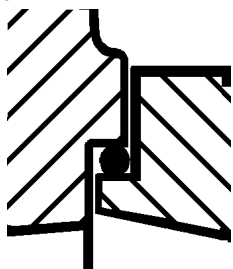
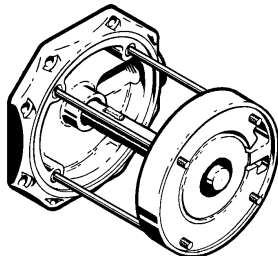
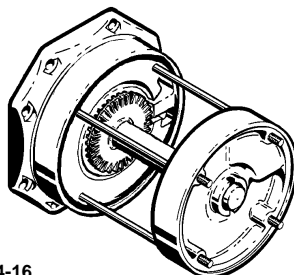

Figure 4-14
Figure 4-15
Figure 4-16
until the "O" ring fits inside the lip in the inlet cover. Refer to Figure 4-14.
- e. With the "O"ring facing the motor end, slide the channel ring (#10) onto the guide rods with the water channel facing up. The large inlet opening should be on the same side as the pump inlet. Refer to figure 4-15. Push on firmly until the "O"ring fits inside the lip in the inlet cover (or diffuser ring). Refer to Figure 4-14.
- c. With the "O"ring facing the left hand channel ring, slide the channel ring onto the guide rods. The small outlet opening should be on the same side as the pump inlet. Refer to Figure 4-16. Push on firmly until the "O" ring fits inside the lip in the left hand channel ring. Refer to Figure 4-14.
- c. With the "O"ring facing the inlet cover, slide the diffuser ring onto the guide rods so that it fits over the inducer impeller. Push on firmly until the "O" ring fits inside the lip in the inlet cover. Refer to Figure 4-14.
- d. With the "O"ring facing the motor end, slide the channel ring onto the guide rods with the water channel facing up. The large inlet opening should be on the same side as the pump inlet. Refer to figure 4-15. Push on firmly until the "O"ring fits inside the lip in the inlet cover (or diffuser ring). Refer to Figure 4-14.